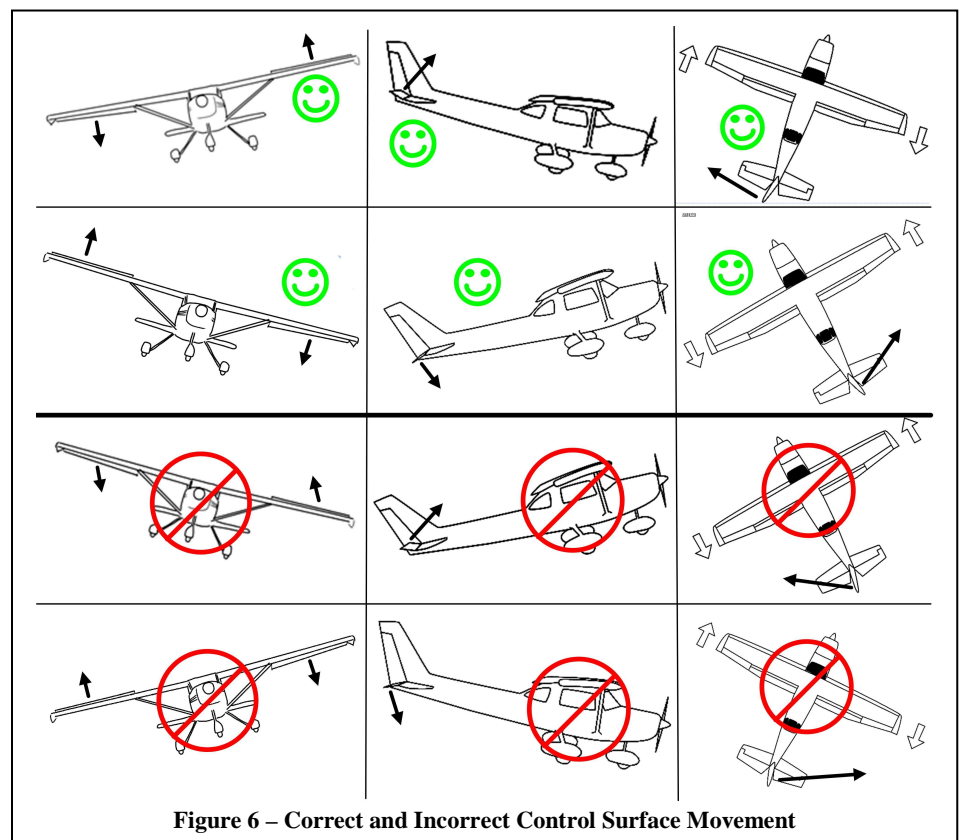

Figure 6 – Correct and Incorrect Control Surface Movement
- To test that the Guardian is working, hold the airplane level. Now, pitch, roll and yaw the model. Please see Figure 6. You should see the control surfaces deflecting appropriately to level the airplane and keep it on a straight heading. If the control surfaces do not move at all, ensure that the Master Gain knob on your transmitter (if used) is set so that stabilization will occur, and ensure that the Mode/Config switch (if used) is set for either 2D or 3D Mode. **Important: If the control surfaces are moving the wrong direction, you need to reverse the direction of the appropriate Guardian Gain Control Dial!**